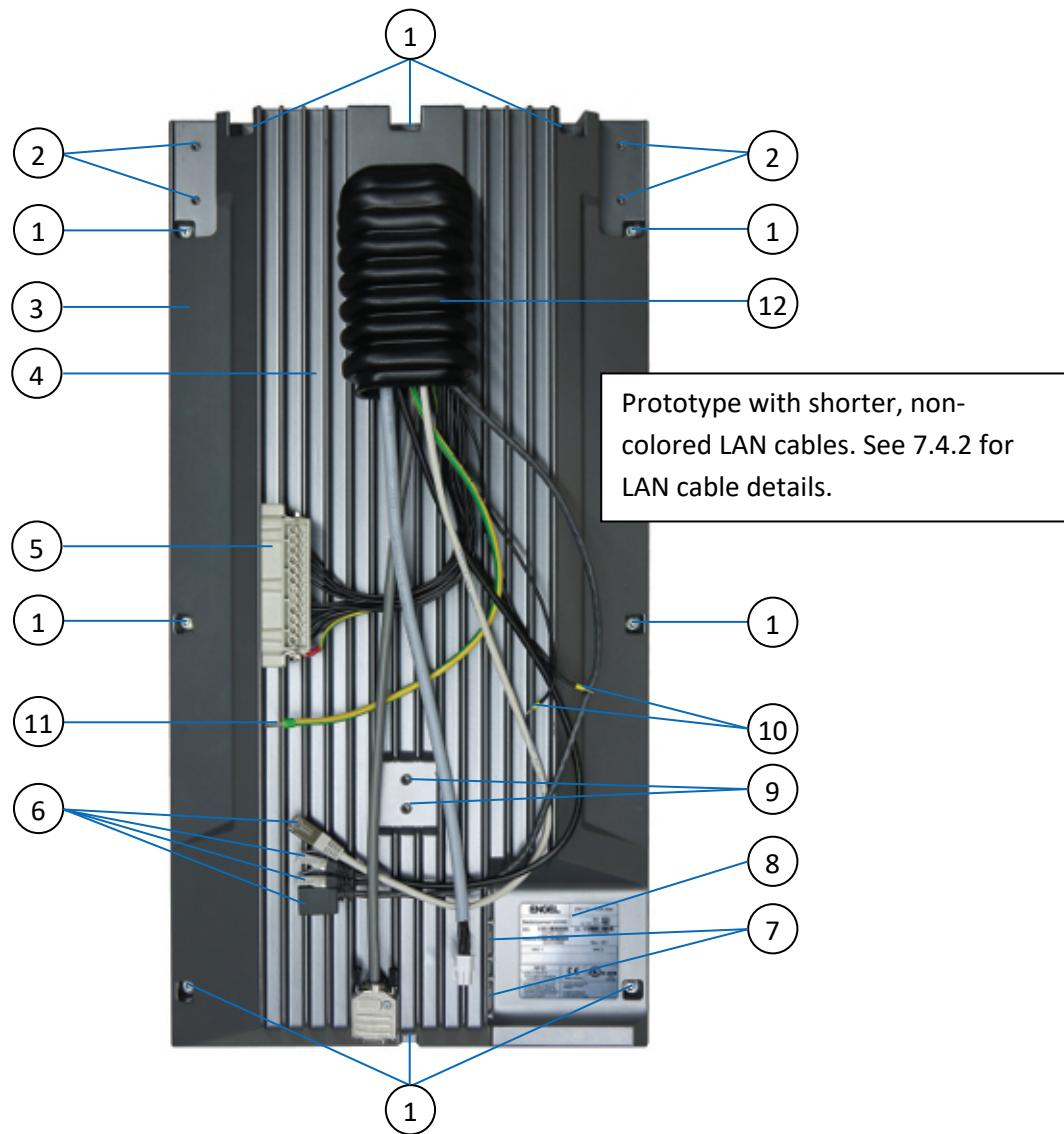

Fig. 17: Rear side of the CC300 operator panel
The nameplate is located at the bottom rear side of the cabinet (see also Fig. 17, Pos. 8).
Legend for Fig. 17 :
All outgoing cables of the CC300 operator panel are routed through the cable gland at the rear side of the cabinet (see also Fig. 17, Pos. 12). Except for the cables for the linear actuator and the grounding cable, all single wires are combined in the 24-pole Harting connector (Fig. 18). For the pin assignment of the Harting connector, refer to chapter 11.1.1 “Harting Connector”.
The two single cables marked “1” and “2” (see Fig. 17, Pos. 10) will be connected to the linear actuator of the tilting mechanism. The maximum allowed connection power is 44 W.
The CC300 operator panel must be grounded by establishing a **large-area contact** between the grounding cable (see also Fig. 17, Pos. 11) and an appropriate grounding contact. The cross section of the grounding cable is 6 mm².
2. Remove the 10x screws (M5 x 10) and the bonded seals that fix the rear cover to the front plate (see Fig. 17, Pos. 1).
4. Fix the rear cover to the front plate with the 10x screws (M5 x 10) and bonded seals removed in chapter 7.5.1 “Opening the CC300 Operator Panel”, step 2 (see Fig. 17, Pos. 1).